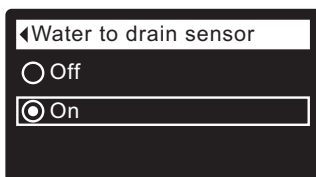

FIG. 146
7. Press the SELECT (O) button to display the Water to drain sensor screen (See Figure 146).